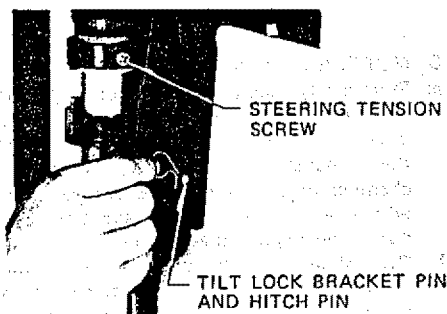

Figure 6
- c. The angle of the motor column is easily adjusted by removing the Hitch Pin and changing the Tilt Lock Bracket Pin in the three (3) different angle position holes located on either side of the right or left Transom Mounting Brackets. Each angle position: elevates five (5) degrees. Try center hole position first. (See Figure 6).
Tighten steering tension screw using a screwdriver for desired steering effort. (See Figure 6).